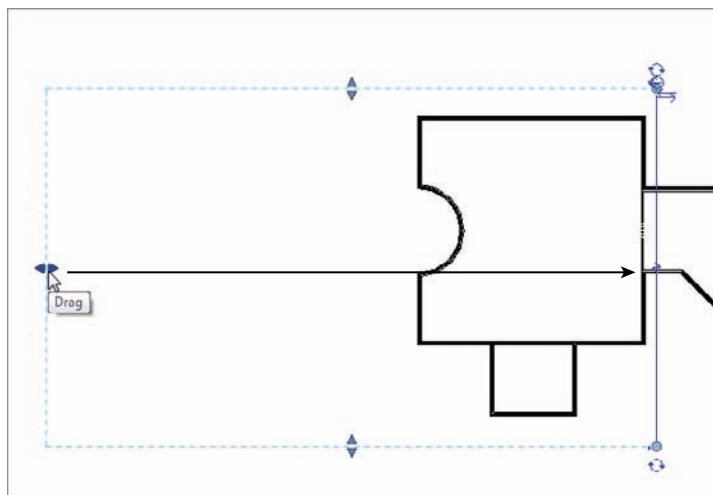

FIGURE 3.35 You can control how deep into the building you want the section to appear.
With the section flipped in the correct direction, you will see a dashed line that forms a box around part of the model, as shown in Figure 3.35. This forms the view extents of the section. Anything outside of this box will not be shown.
7. The vertical dashed line (to the left) has a move arrow. Pick the move arrow and drag the crop region into the area shown in Figure 3.35.